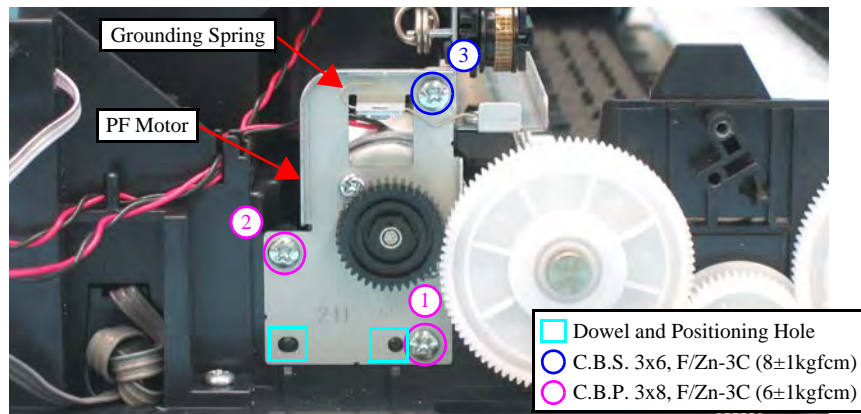

Figure 4-62. Removing the PF Motor (2)
- Insert the dowels (x2) on the Base Frame into the positioning holes (x2) of the PF Motor as shown in Figure 4-62.
- Tighten the screws in the order given in Figure 4-62.